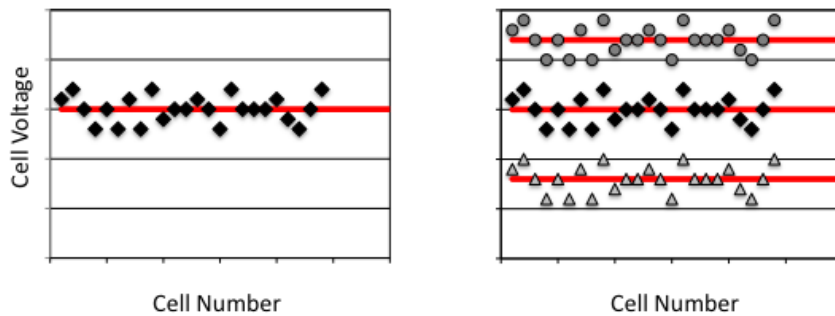

Figure 2. Ratings based on String Averages
- String average – when a string of cells are tested, this will be the average of the string. Strings will average above and below this value, and on top of this; the cells will range above and below the string average. See Figure 2. This can result in a much larger spread of possible individual cell voltages. Again, none of these cells would be considered a failure by the manufacturer.